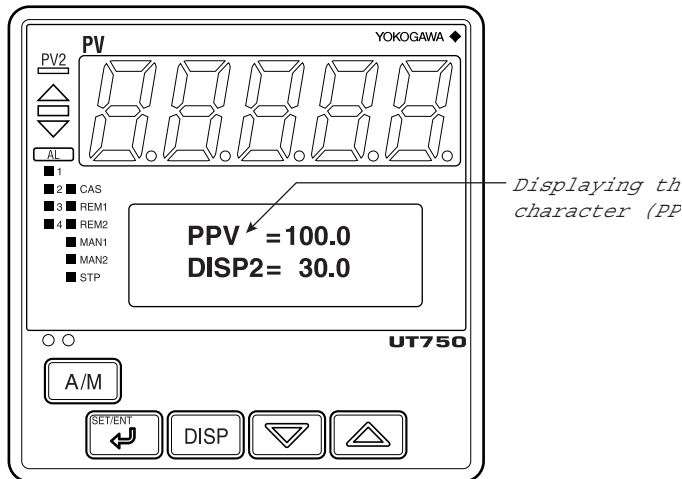

Figure 12.2.11 Example of the DISP1 Display Configured to Show “PPV” on Digital Display
- (2) In the text box, type the text you want to show on the PV digital display. You can type a maximum of five half-byte alphanumeric characters. Figure 12.2.11 is an example where “PPV” is set as the text.